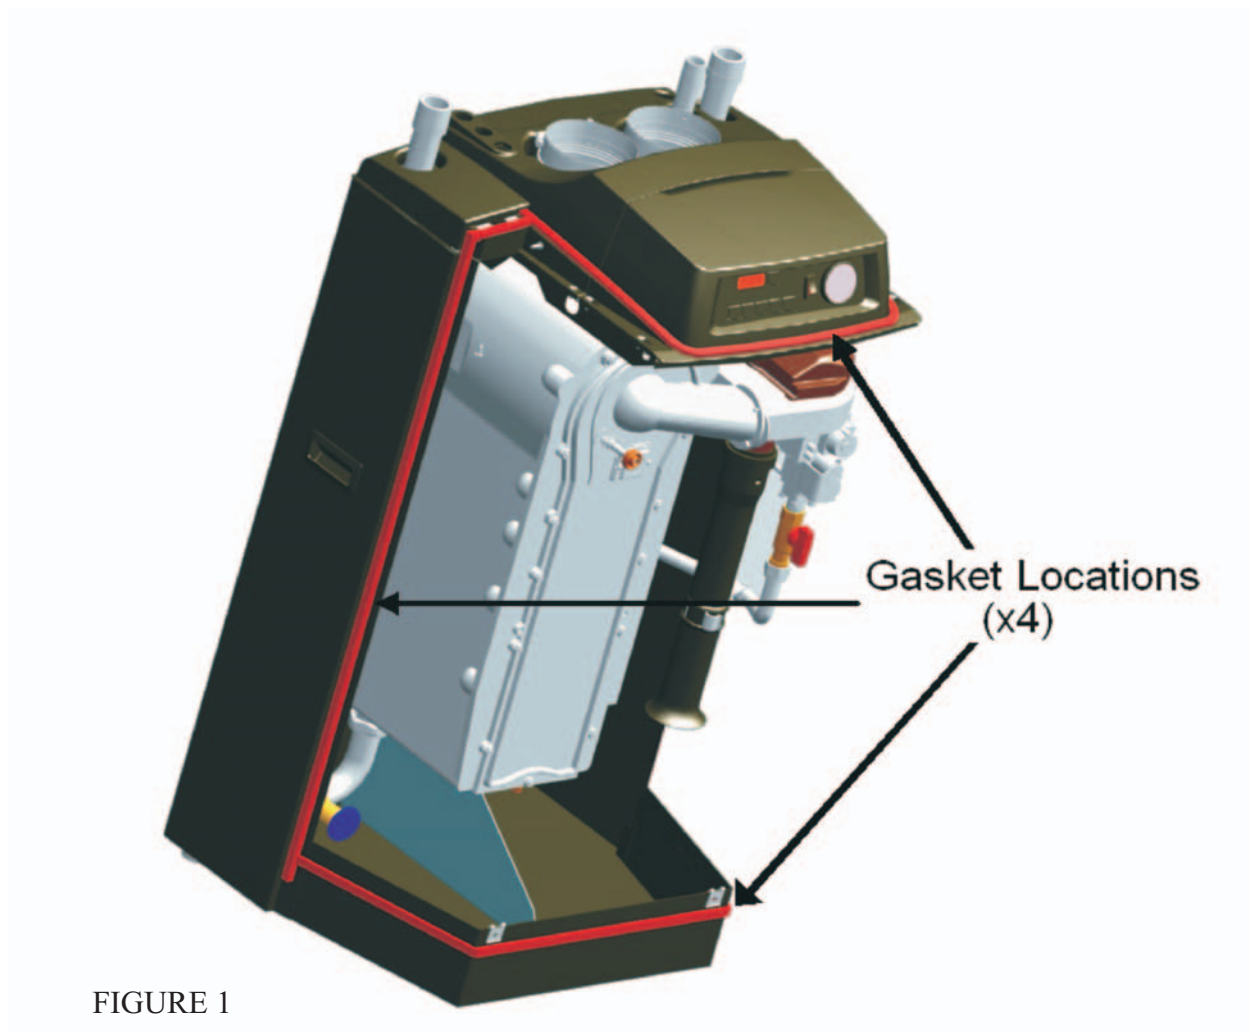

FIGURE 1
4. Clean the edges of the boiler in the locations of the new gasket as shown in Figure 1. Isopropyl Alcohol may be used to remove any oil or residue. Allow the surfaces time to dry before continuing to the next step.
5. Top Gasket - Peel back a small portion of the plastic backing off the gasket to expose the adhesive. Begin applying the gasket to the top of the boiler as shown in Figure 1. The gasket should be applied around the perimeter of the control pod.
6. Side Gaskets - Peel back a small portion of the plastic backing off the gasket to expose the adhesive. Begin applying the gasket to the top of the boiler adjacent to the top gasket as shown in Figure 1. Apply the gasket around the corner and down the length of the boiler. Repeat application for remaining side.
7. Bottom Gasket - Peel back a small portion of the plastic backing off the gasket to expose the adhesive. Begin applying the gasket adjacent to the side gasket as shown in Figure 1. The gasket should be one inch below the top of the sheet metal base pan. Apply the gasket along the front of the boiler until it reaches the other side gasket. Trim the gasket to length to minimize the gaps between the gaskets.